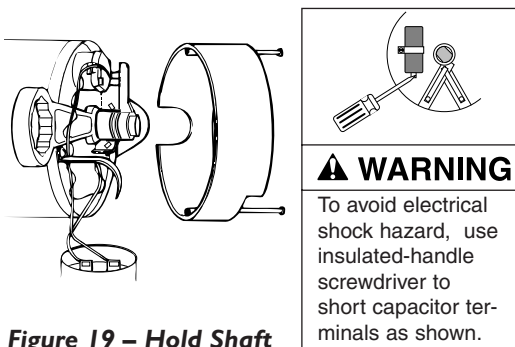

Figure 19 – Hold Shaft
Step 2. If impeller must be replaced, loosen two machine screws and remove motor canopy (see Figure 19).
Step 3. **⚠ WARNING** Capacitor voltage may be hazardous. To discharge capacitor, hold insulated handle screwdriver **BY THE HANDLE** and short capacitor terminals together (see Figure 19). Do not touch metal screwdriver blade or capacitor terminals. If in doubt, consult a qualified electrician.